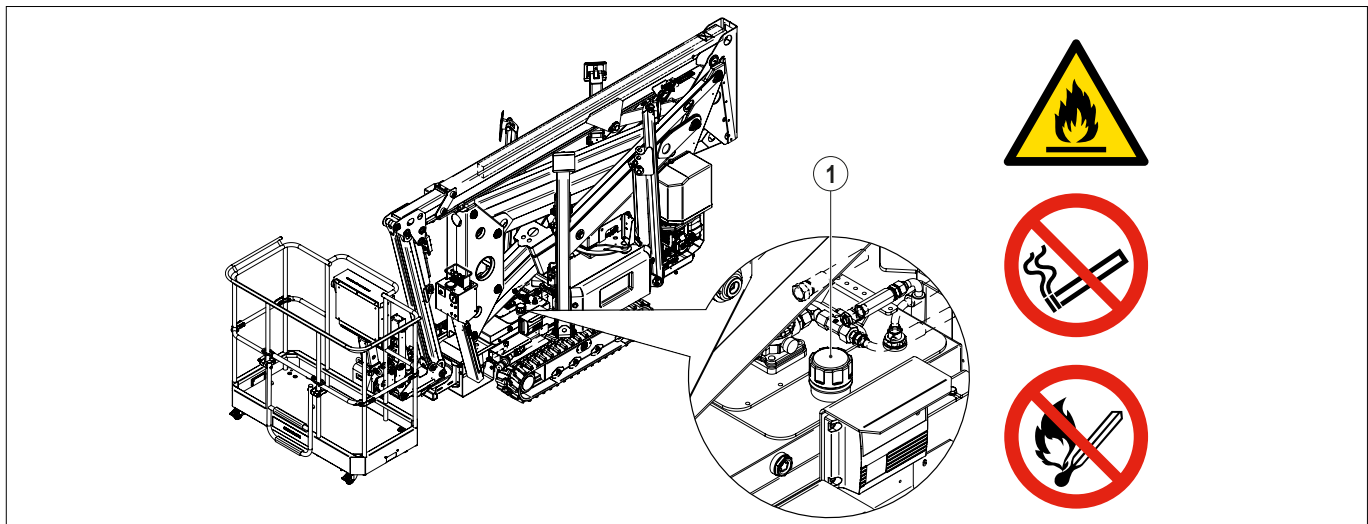

FIG. 24 (Filling the fuel tank)
- 2) Unscrew the fuel tank cap (FIG. 24 - Ref. 1) and remove it